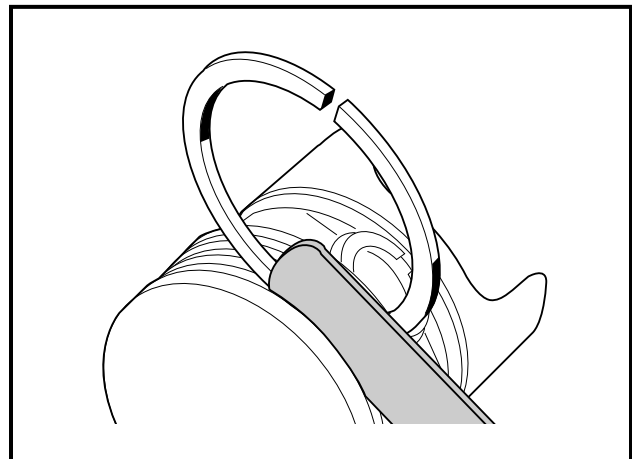

Figure 18-44 Measure Piston Ring Clearance
5. Use a new piston ring and feeler gauge to measure the clearance between the grooves and ring at several points around the grooves (**Figure 18-44, Page 18-24**).